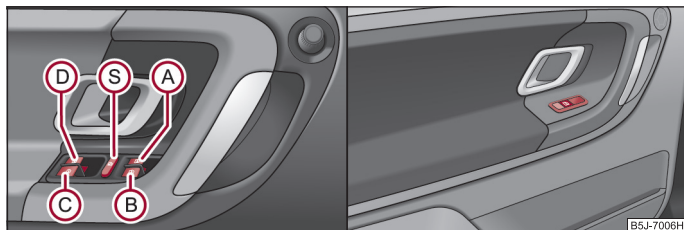

Fig. 33 Buttons on the driver's door / Buttons on the rear doors
The buttons for the individual windows are located in the operating part of the armrest of the driver's door ⇒ fig. 33, front passenger door and on the rear doors*.
You can deactivate the buttons for power windows at rear doors by pressing the safety pushbutton (S) ⇒ fig. 33. The buttons for power windows at rear doors are activated again by pressing the safety pushbutton (S) again.
It is recommended to deactivate the electrically operated power windows in the rear doors (safety pushbutton) (S) ⇒ fig. 33 when children are being transported on the rear seats.